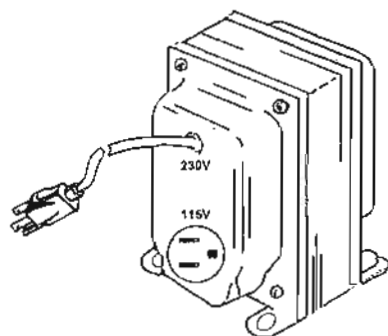

Figure 1-2. Step-down transformer.
(2) *Step-down transformer (fig 1-2).* The stand-alone transformer is used to operate the centrifuge from a 230-volt source of electrical power.